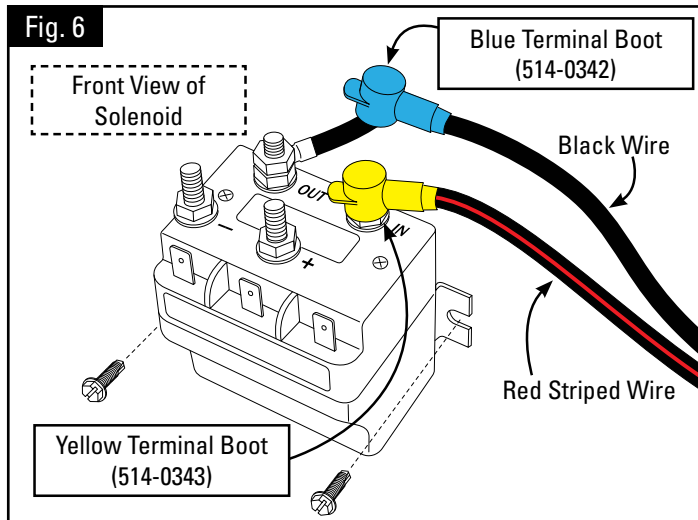

Fig. 6
Attach Red Striped Wire to the Motor (IN) and connect the Black Wire to Motor (OUT) on the Control Box (Fig. 6).